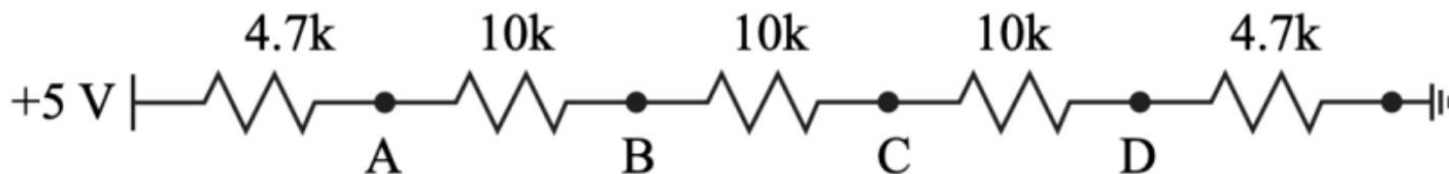

Figure 3.1: Resistor Ladder Example
A resistor ladder is shown in Figure 3.1.
- Using LTspice, layout the circuit in Figure 3.1 and run a DC operating point simulation (.op) to generate the node voltages at nodes A, B, C, and D. Table the node voltages.